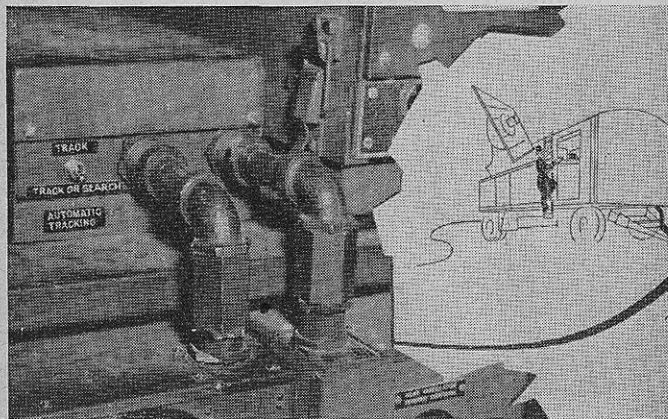

FIGURE 17.—Automatic tracking switch.
■ 15. AUTOMATIC TRACKING SWITCH.—The AUTOMATIC TRACKING SWITCH (fig. 17) on the junction box between